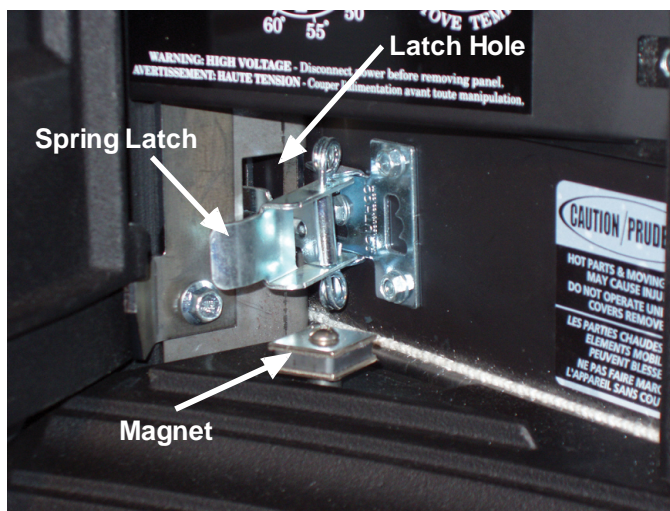
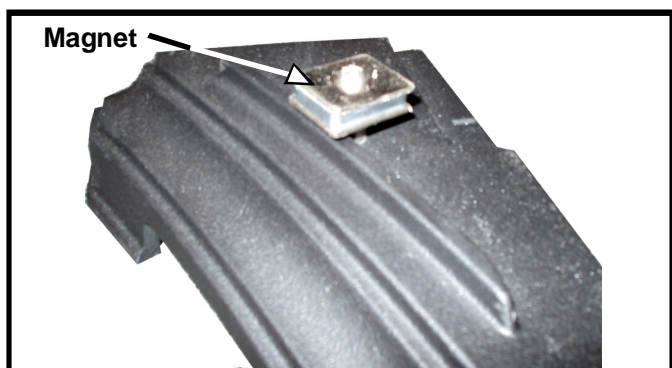
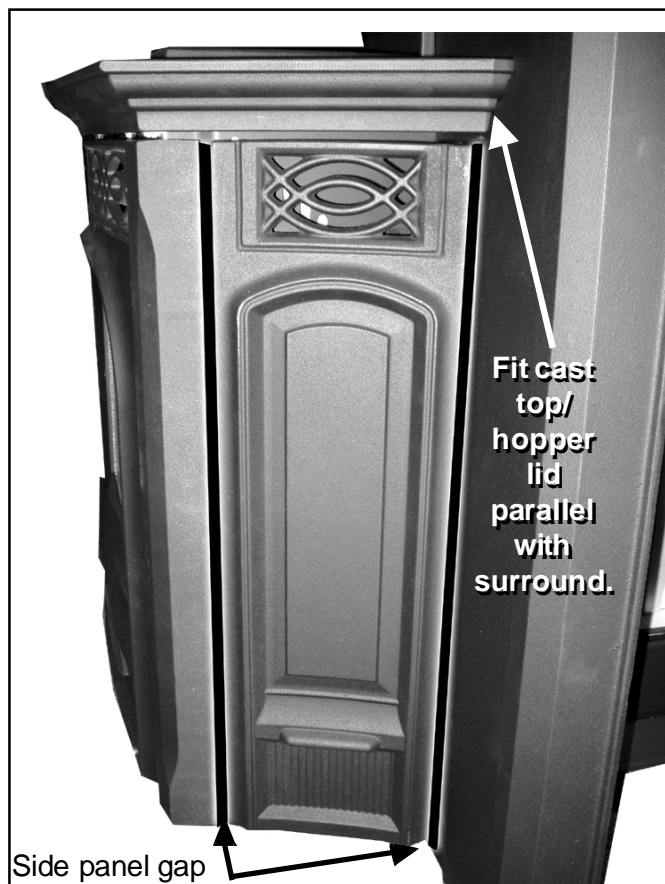

Fig. 37
Fig. 38
Fig. 39
- Note: The two spring latches on the bottom right and left side of the body must be in the proper position to enter the latch holes. (See fig. 37).
- Latch the (2) spring latches into place.
23. Shift the cast top/hopper lid assembly inward as far as possible to achieve a parallel fit with the surround sides. See Fig. 39. Tighten the cast top/hopper lid assembly bolts with a 3/8" socket. See page 8, Fig. 12.
- In the hardware pack are (2) magnets, (2) spacers and (2) 10-32 x 1 1/4" bolts and nuts.
- Bolt the magnets through the cast iron hole provided. **Important:** The spacer must be on top of the hole, the magnet on top of the spacer with the bolt going down through the hole with the nut at the bottom, under the ash lip. See fig. 38.
- With the front door closed and latched, check the vertical space alignment. The only method of changing or adjusting this gap is by bending (slightly) the hinge angle. See fig. 39.